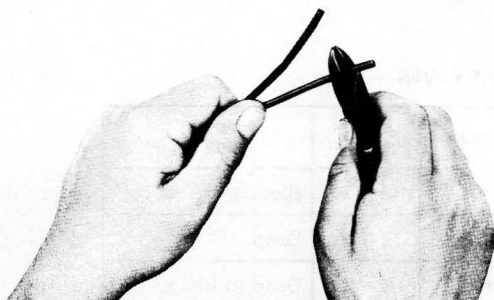

Fig. 2—Nicking Insulation
SPECIAL CASE (FIG. 2)	B
- (2) Nick insulation circumferentially 15/16-inch from end (Fig. 2). **Do not nick conductors.**